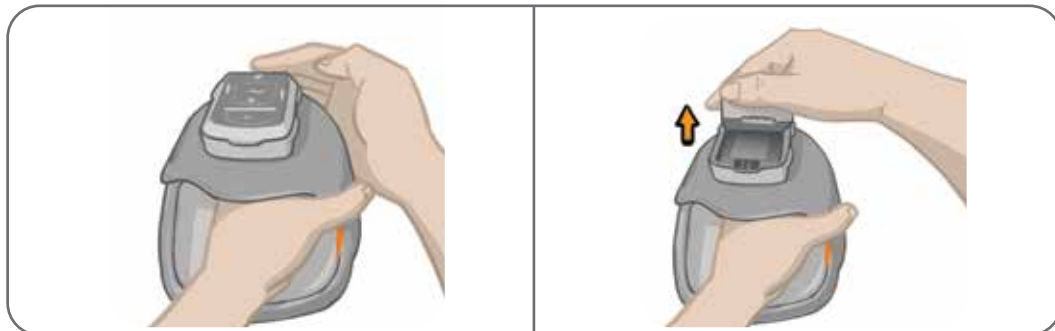

Figure 8-10: Removing the EPG
2. Pull the top of the EPG away from the cradle. See Figure 8-10.